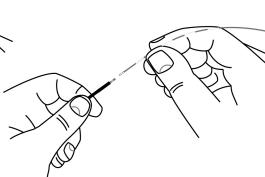

Figure 15
- Carefully advance the Delivery Catheter over the BareWire Filter Delivery Wire (Figure 15). The BareWire Filter Delivery Wire will exit the Delivery Catheter at the catheter wire exit port.